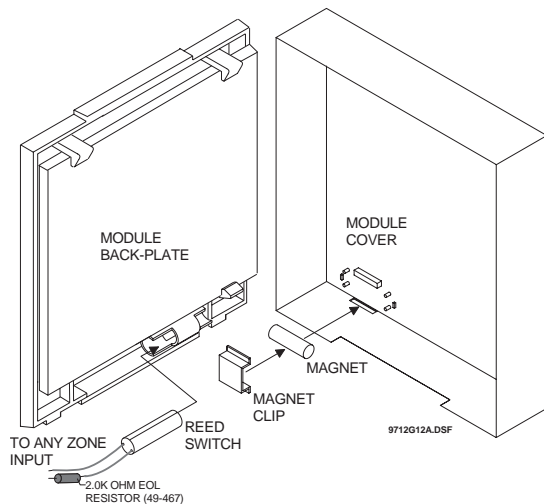

Figure 9. Installing the Reed Switch
### To install the tamper reed switch (Figure 9):
1. Slide the reed switch into the reed switch holder located on the module back-plate shown in Figure 9.
2. Insert the magnet into the nibs on the module cover. Remove the magnet clip from the module back-plate and press the magnet clip down over the magnet until it clicks into place (Figure 9).